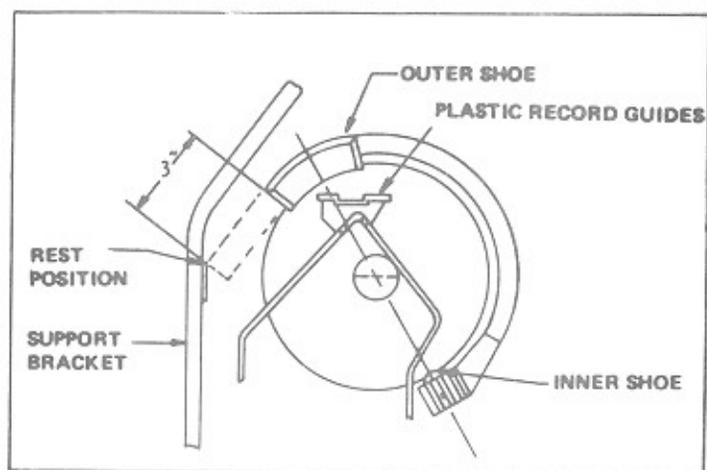

Figure 3-15. Magazine And Transfer Arm Position
2. Using a 5/32-inch Allen wrench in end of transfer motor shaft, turn motor shaft clockwise until gripper bow lifts record out of magazine, and outer shoe is approximately 3 inches from its rest position on back support (See Figure 3-15.). In this position, a center line from the inner shoe through the center of the outer shoe will pass through the back of the plastic record guide on the magazine.